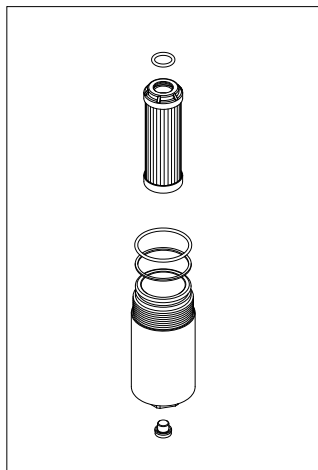

fig. 25
- (Fig. 25) Fit #1: the anti-extrusion ring and #2: the O-ring in the bowl groove, insert the O-ring in the filter element cap